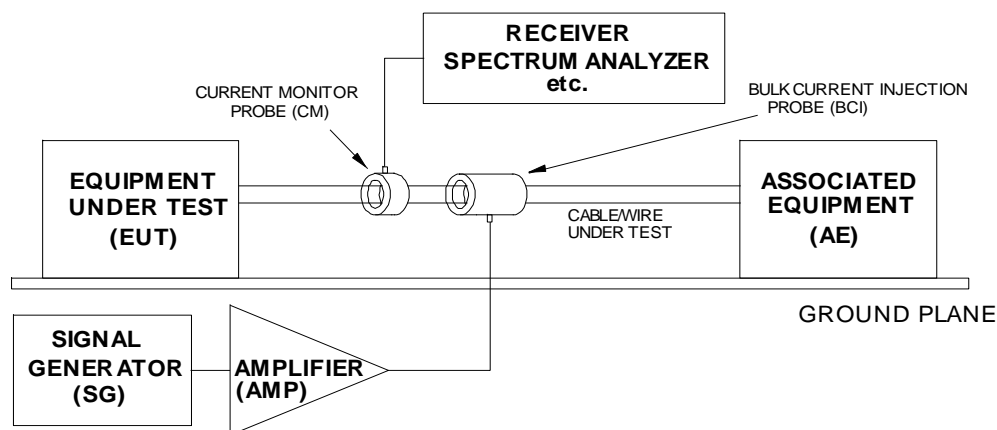

Figure 1 - Basic EUT / AE Test Setup Using a Bulk Current Injection Probe and a Current Monitor Probe to Investigate Upset
Figure 1 shows the basic test setup using a Fischer BCI Probe, a Signal Generator (SG) and an Amplifier (Amp). The specific make and models for all 3 units are selected based on the desired frequency range for the upset investigation. A suitable Fischer Current Monitor (CM) Probe is used to measure/monitor the injected current actually induced on the cable/wire(s).
How to Apply the BCI Probe Using Figure 1
- The test configuration shown in Figure 1 is set up
- The test configuration shown in Figure 1 is then set up